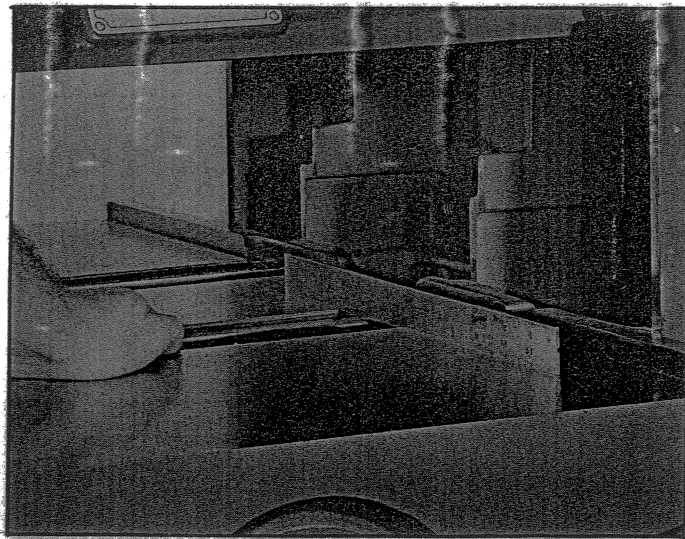

Fig. 7
9. Place a straight-edge over both bed rolls, as shown in Fig. 7.